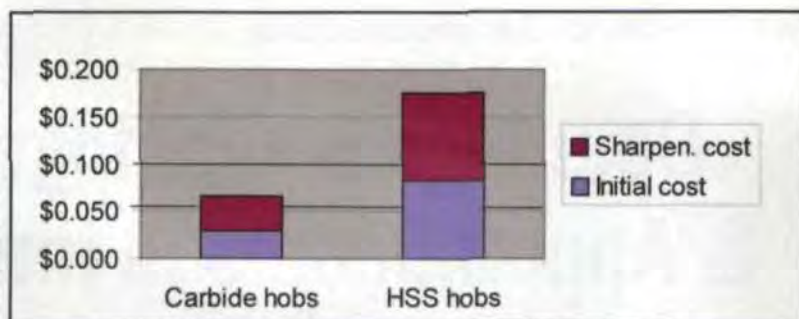

Figure 9—Cost-per-gear comparison between carbide and HSS hobs.
**Cutting Tools Cost Reduction.** A conservative estimate of per-gear tooling cost reduction is close to threefold (Fig. 9).